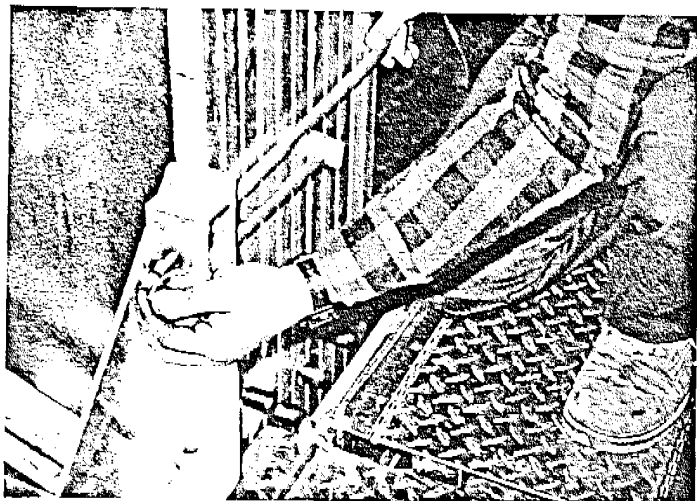

FIGURE 20
3. **DO REMAINING** seven sections. (See Figure 20).